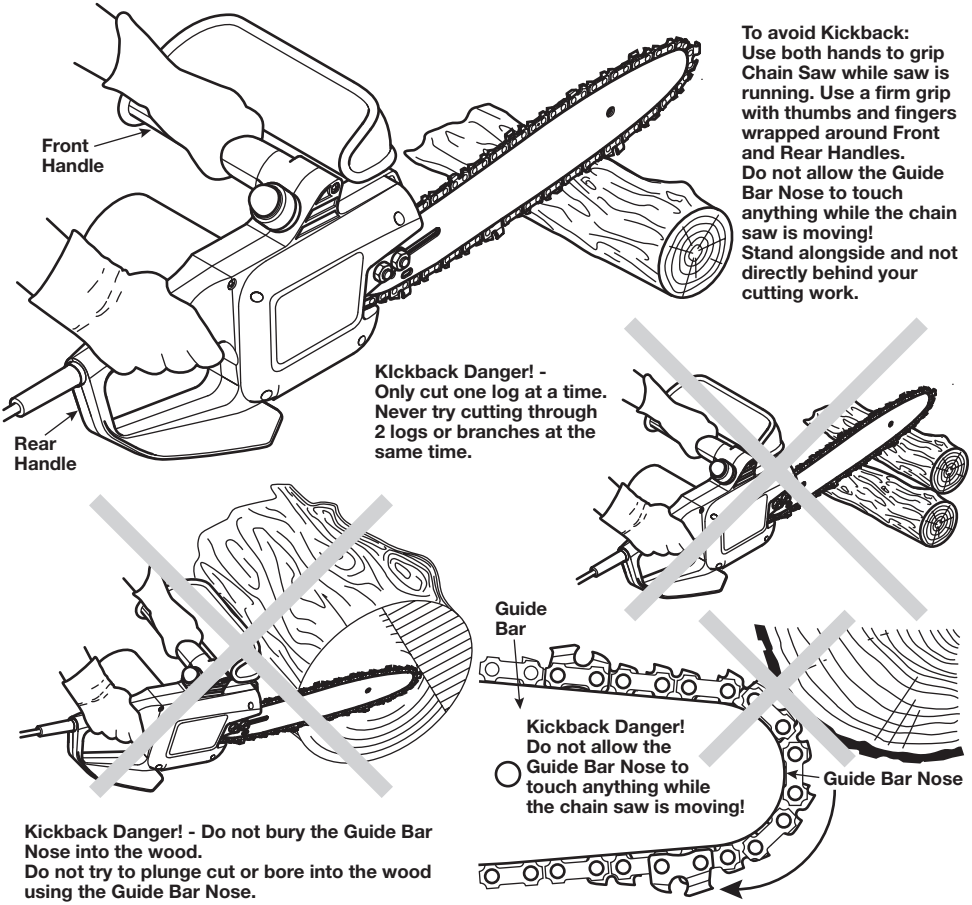

Fig. 1 Proper Use of The Chain Saw to avoid Kickback
- **Rotational Kickback** can happen when the upper tip of the guide bar contacts an object while the chain is moving (Fig. 1). This can cause the chain to dig into the object and momentarily stop moving. The guide bar is then kicked up and back toward the operator in a lightning-fast reverse reaction.